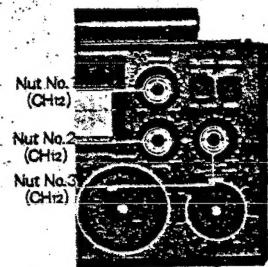

Fig. 3
2. Remove the three (3) knobs for the volume, bass and treble control.
3. Remove the three (3) red nuts (nos. 1~3) for the volume, bass and treble, as shown in fig. 3.